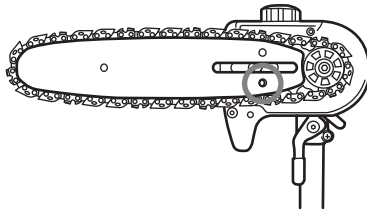

Fig. 6g
9. Make sure the tension pin (D11) is inserted into the lower hole on the guide bar. (See Fig. 6g)